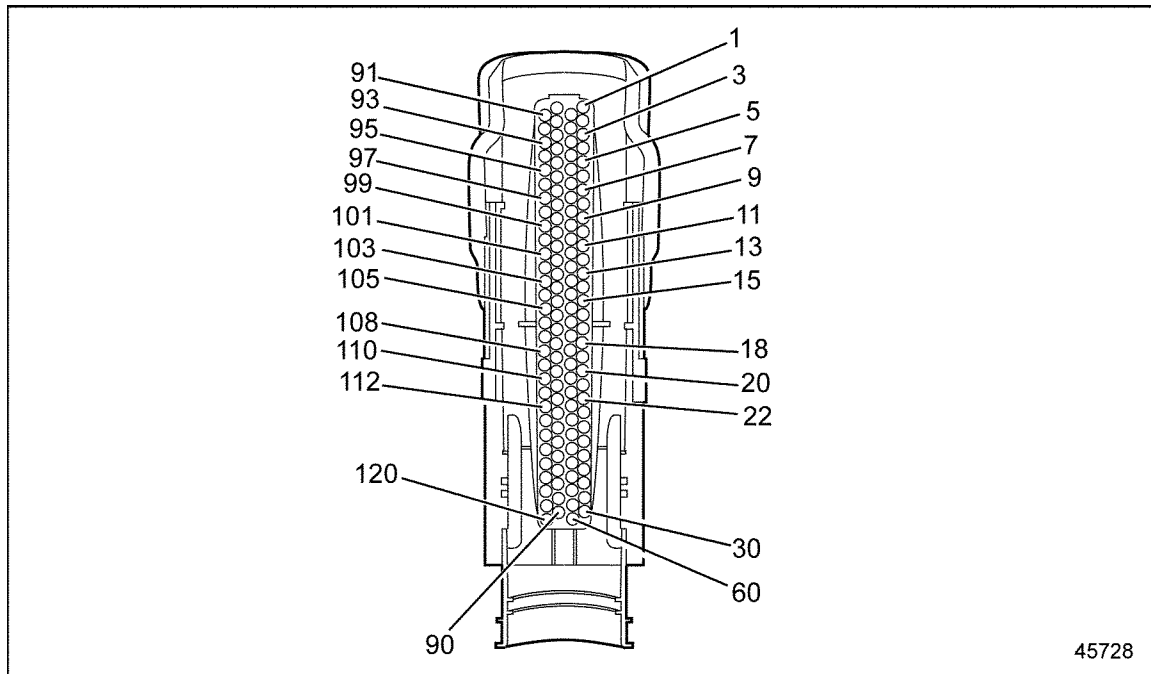

Figure 13-2 MCM 120-pin Connector
- [a] If the voltage is between 2.75 and 3.25 volts, repair the open circuit between pin 1 of the SFT Sensor harness connector and pin 55 of the 120-pin MCM connector. See Figure 13-2. Refer to section 13.1.2.1.
- [b] If the voltage is less than 2.75 volts, repair the open circuit between pin 2 of the SFT Sensor harness connector and pin 77 of the 120-pin MCM connector. See Figure 13-2. Refer to section 13.1.2.1.